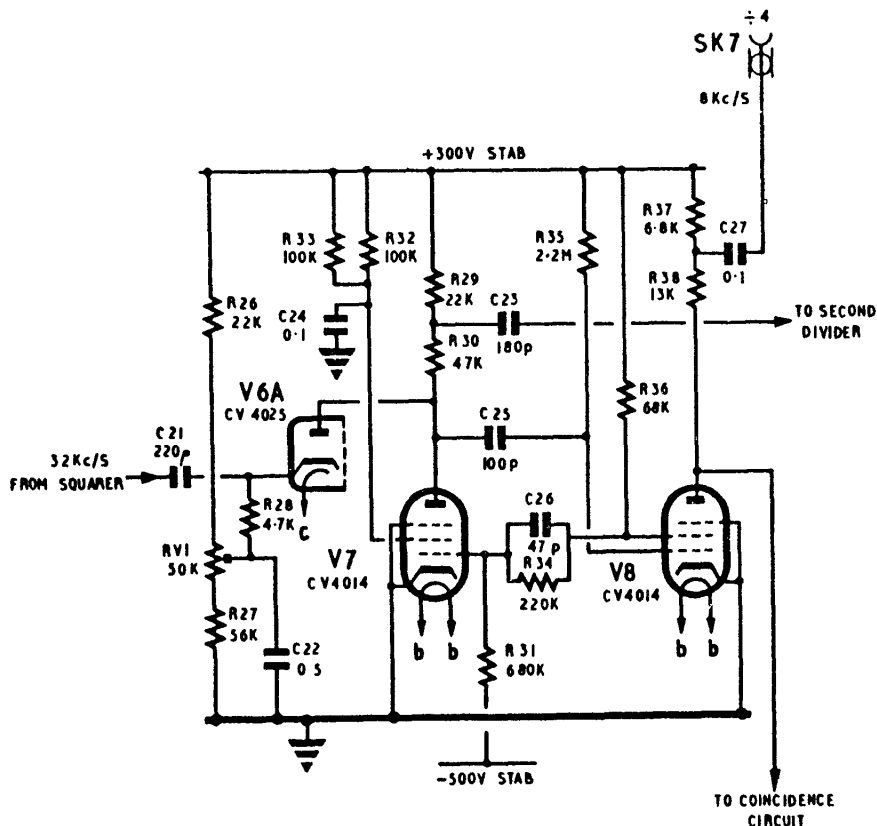

Fig. 6. Divider circuit
18. In the stable state of the flip-flop circuit (fig. 6) V7 is cut off by its grid connection to the junction of R31 and R24. V8 is conducting hard as its control grid is returned to HT via R35. V7 anode then tends to rise to +300V but is held at the potential of RV1's wiper when V6A conducts. The screen grid and anode potentials of V8 are low during this period.